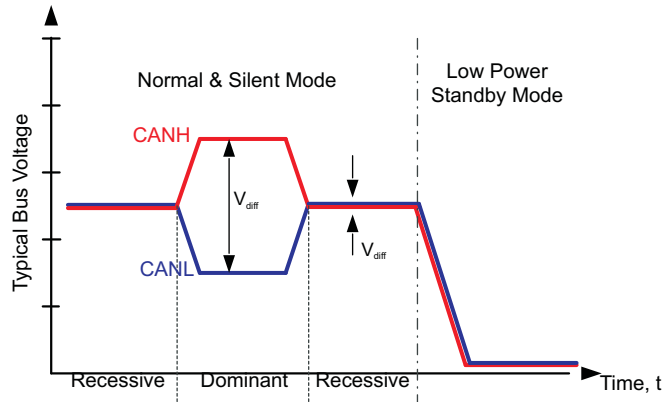
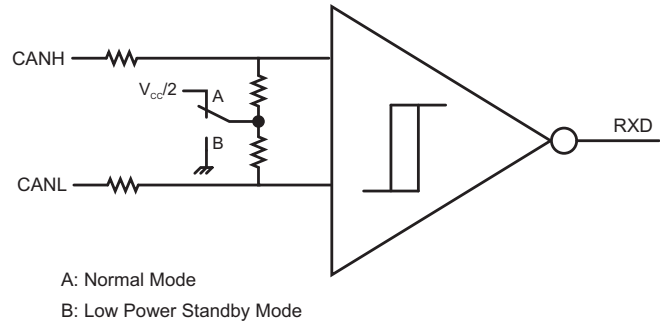

Figure 15. Bus States (Physical Bit Representation)
Figure 16. Simplified Common Mode Bias and Receiver Implementation
Both of the supply pins have undervoltage detection which place the device in forced standby mode to protect the bus during an undervoltage event on either the  $V_{CC}$  or  $V_{IO}$  supply pins. If  $V_{IO}$  is undervoltage the RXD pin is tri-stated and the device does not pass any wake-up signals from the bus to the RXD pin. Since the device is placed into forced standby mode the CAN bus pins have a common mode bias to ground protecting the CAN network, see Figure 15 and Figure 16.
- (1) See Figure 15 and Figure 16 for common mode bias information.
This is the low power mode of the device. It is selected by setting STB high. The CAN driver and receiver are turned off and bidirectional CAN communication is not possible. There is no wake up capability in the HVDA540, the RXD pin will remain recessive (high) while the device is in standby mode. This state is supplied via the  $V_{IO}$  supply, thus the  $V_{CC}$  (5V) supply may be turned off for additional power savings at the system level. The local protocol controller (MCU) should reactivate the device to normal mode to enable communication via the CAN bus. The 5 V ( $V_{CC}$ ) supply needs to be reactivated by the local protocol controller to resume normal mode if it has been turned off for low-power standby operation. The CAN bus pins are weakly pulled to GND, see Figure 15 and Figure 16.
This is the low power mode of the device. It is selected by setting STB high. The CAN driver and main receiver are turned off and bidirectional CAN communication is not possible. The low power receiver and bus monitor, both supplied via the  $V_{IO}$  supply, are enabled to allow for RXD wake up requests via the CAN bus. The  $V_{CC}$  (5V) supply may be turned off for additional power savings at the system level. A wake up request will be output to RXD (driven low) for any dominant bus transmissions longer than the filter time  $t_{BUS}$ . The local protocol controller (MCU) should monitor RXD for transitions and then reactivate the device to normal mode based on the wake up request. The 5 V ( $V_{CC}$ ) supply needs to be reactivated by the local protocol controller to resume normal mode if it has been turned off for low-power standby operation. The CAN bus pins are weakly pulled to GND, see Figure 15 and Figure 16.
- (1) H = high level, L = low level, X = irrelevant, Y = common mode bias to GND, Z = common mode bias to  $V_{CC}/2$ . See Figure 15 and Figure 16 for common mode bias information.
- (2) HVDA540/541 have internal pull up to  $V_{IO}$  on STB pin. If STB pin is open the pin will be pulled high and the device will be in standby mode.
- (3) HVDA542 has internal pulldown to GND on S pin. If S pin is open the pin will be pulled low and the device will be in normal mode.